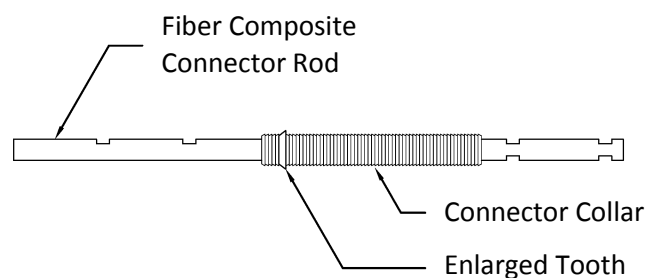
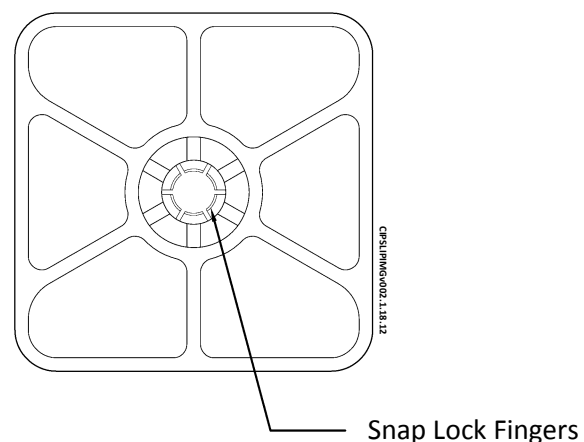

Figure 1 – Fiber composite rod connector for Thermomass SYSTEM CIP
Figure 2 – Back side view of CIP retaining button
Each connector in the Thermomass System CIP comprises a connector rod and collar (Figure 1) with 2 retaining buttons (Figure 2). The collar on the connector has a series of inclined teeth, and the buttons have a central hole with six fingers. The fingers in the buttons act as detents that lock into the teeth on the collar producing a ratchet mechanism. Therefore, the buttons will slide onto the collar but cannot be removed without damaging the button or the collar. At one end of the collar, an enlarged tooth acts as a stop for the first button (Figure 1). This enlarged tooth sets the distance from the face of the form to the face of the insulation. In
5. During concrete placement, use accepted practice for concrete mix design and placement procedures for thin wall sections. If multiple walls intersect, start the concrete placement at the insulated walls. Ensure that the concrete is placed on both sides of the insulation with a maximum differential head of approximately one foot (Figure 2).